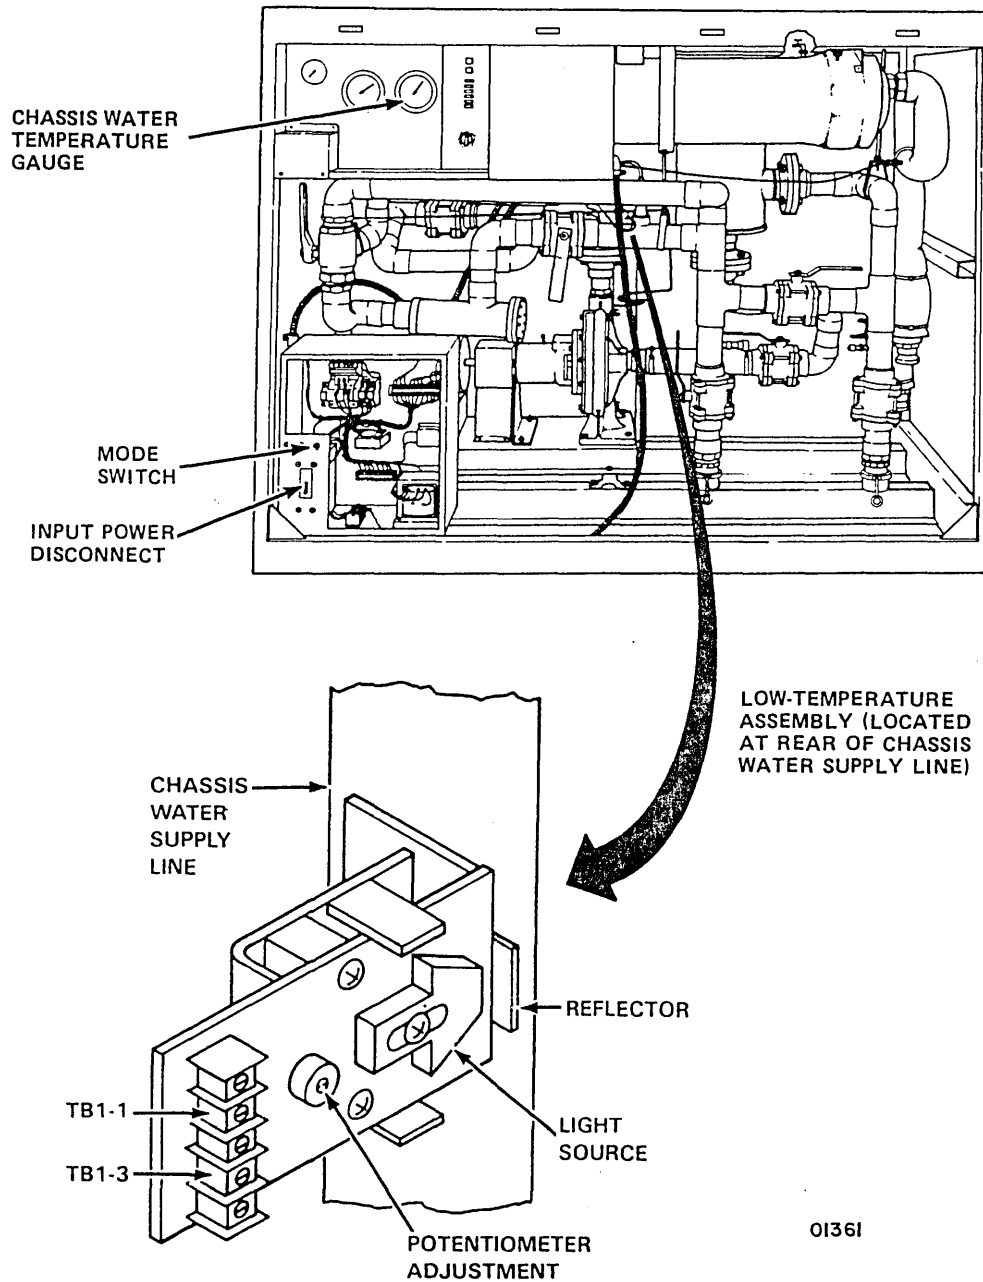

Figure 6-6. 220-L/min (58-gal/min) Unit to SPM Cable Check
- ___ 6. Insert a piece of paper between light source and reflector on low-temperature assembly in 220-L/min (58-gal/min) water cooling unit (figure 6-6). A fault indication occurs at water cooling unit and SPM indicators. Lighted fault indicator at SPM indicates a proper warning line connection between water cooling unit and SPM.